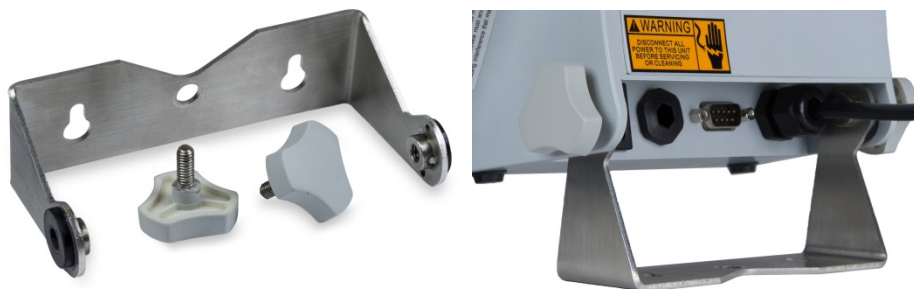

Figure 2-5: Bracket and Tightening Knobs
4. Use two bracket hand knobs to attach the brackets to the bottom of the terminal, as shown in Figure 2-5.